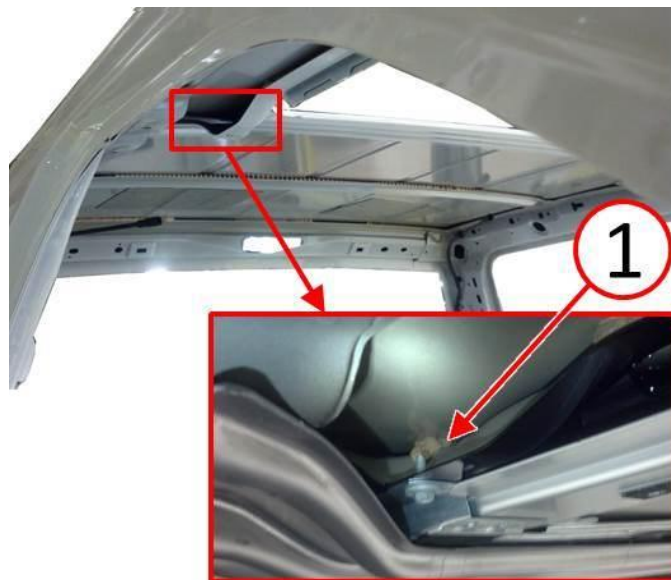

Fig. 3 Sunroof Ring Bonding Inspection
7. Inspect for missing or separated anti-flutter adhesive foam (1) between the sunroof opening reinforcement ring and the roof sheet metal in the right and left rear corners of the sunroof opening reinforcement ring (Fig. 3).